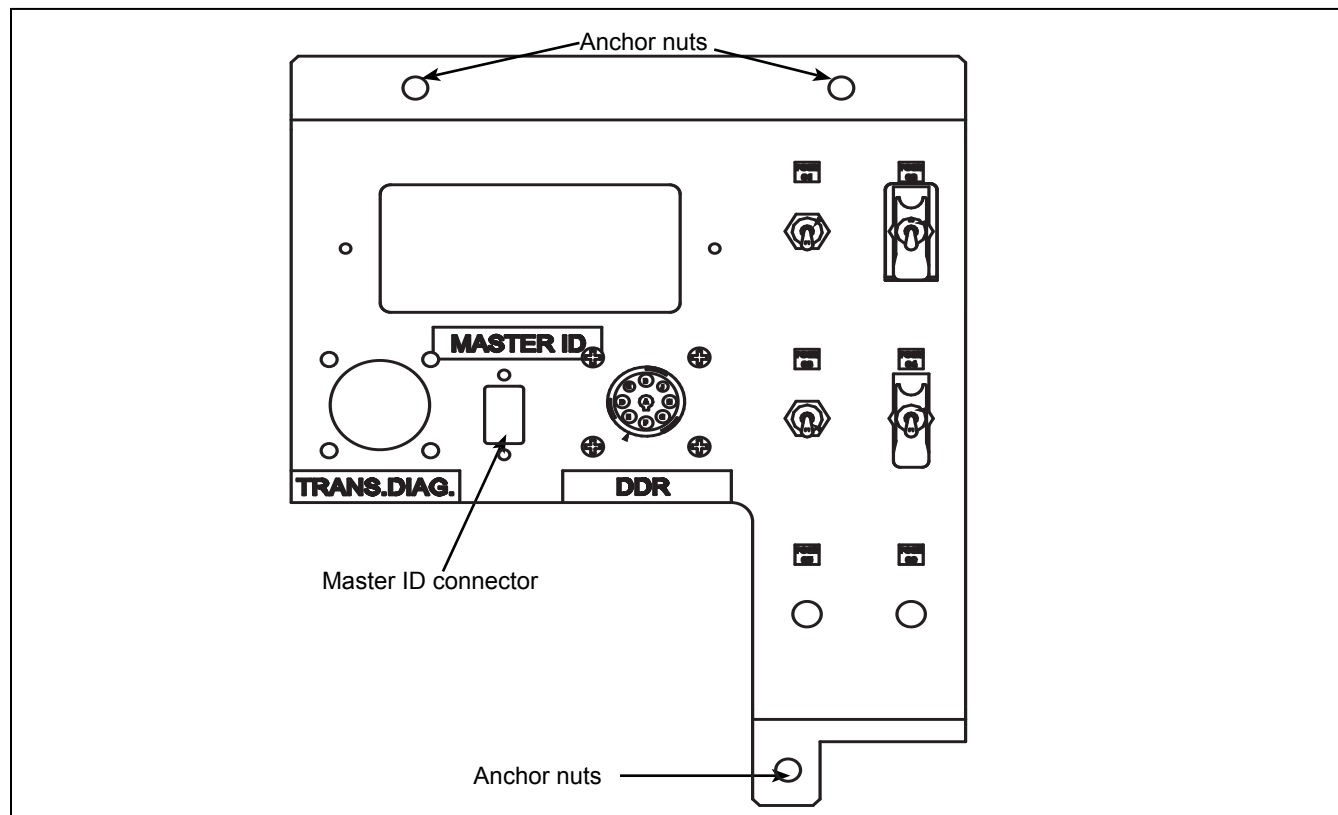

Figure 1 - Typical Overhead Console Panel
- 1.5. Remove the anchor nuts from the overhead console panel. Retain the hardware. See Figure 1.
- 1.7. Install the male connector of the new cable N60809 in the Master ID position on the overhead console panel. Use the retained hardware to attach the connector. See Figure 1.
- 1.8. Return the overhead console panel to its original position using the retained hardware. See Figure 1.